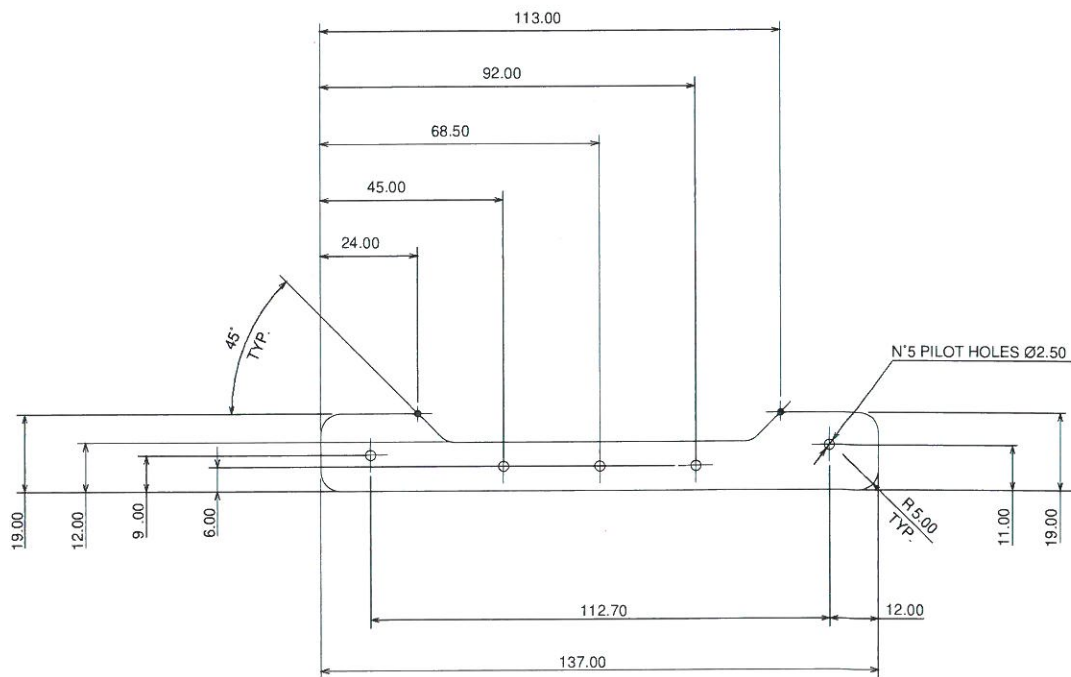

Figure 8
- 3.3.4.1 With reference to Figure 8, manufacture strips P/N 3P5315A10551 and/or 3P5315A12951 using Aluminium Sheet AL-ALY 2024.
- 3.3.4.3 With reference to Figure 8 and in accordance with CSRP DM CSRP-A-51-21-02-02A-257A-D apply a layer of primer on strips P/N 3P5315A10551 and/or 3P5315A12951.